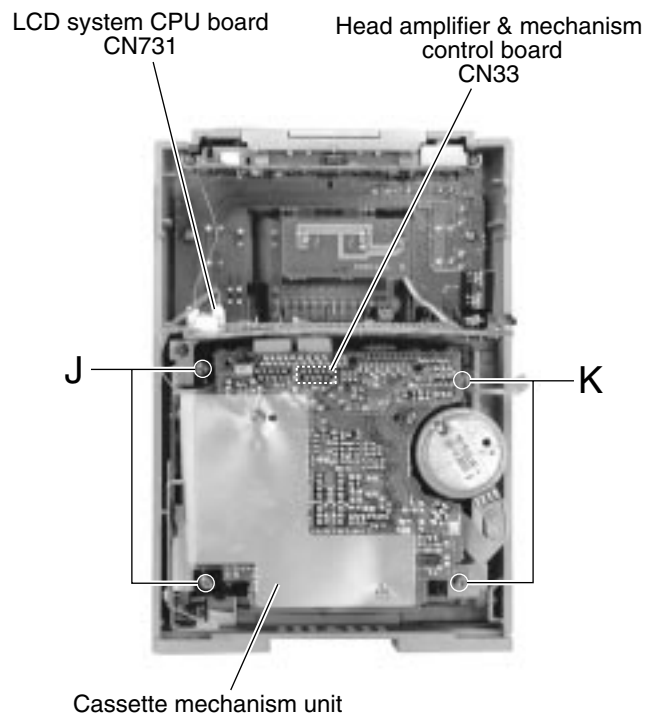

Fig. 17
■ Removing the cassette mechanism unit (See Fig. 17)